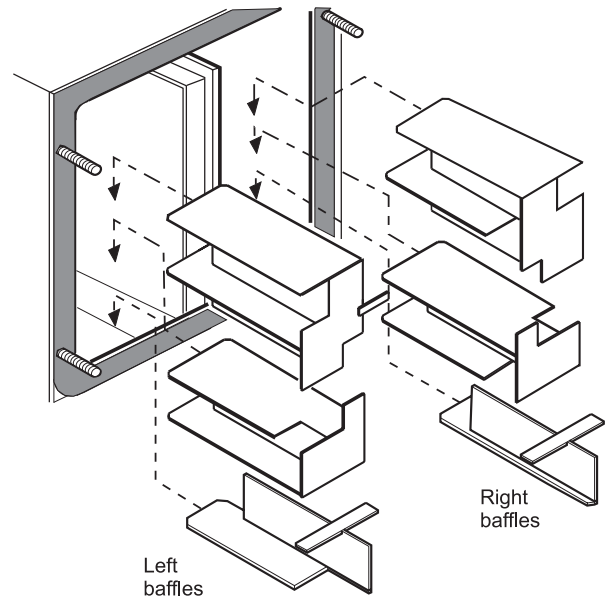

Fig. 24 - 15/26 models
- 2 Remove the baffles as shown in Fig. 24 or 25.
- 6 Replace the baffles, ensuring they are correctly fitted. See Fig. 24 or 25.